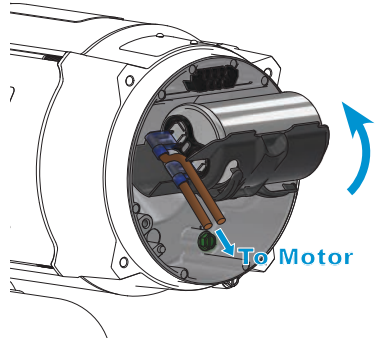

Figure 7
7. Replace the plastic cover by rolling the capacitor and plastic against the metal supports in the bottom of the housing and then snapping the plastic tabs into the wall of the metal housing. (see Figure 7)